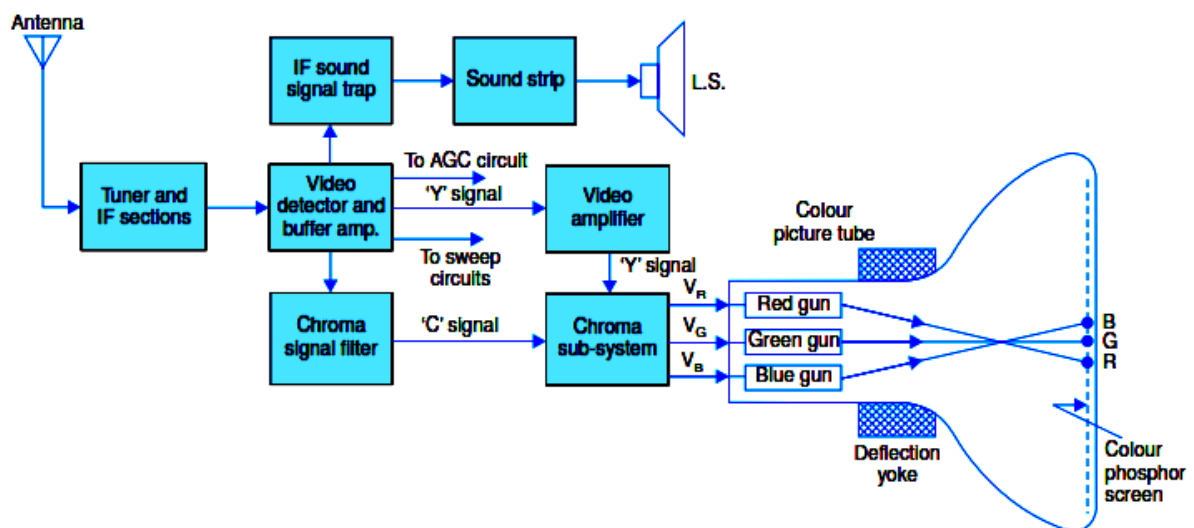

Fig. 12.12 Block diagram of a colour receiver
1. A colour receiver is similar to the black and white receiver as shown in Fig. 12.12.
- As shown in Fig. 12.12, the colour picture tube has three guns corresponding to the three pick-up tubes in the colour camera.